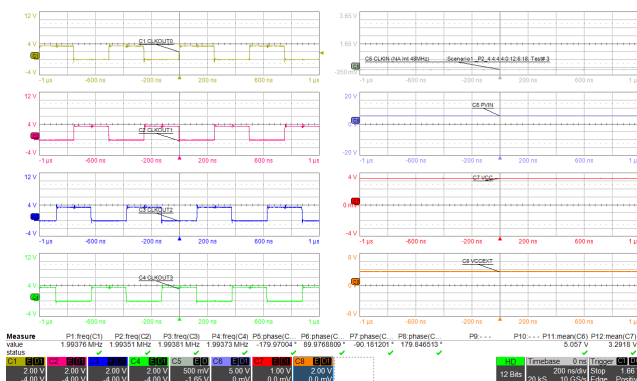
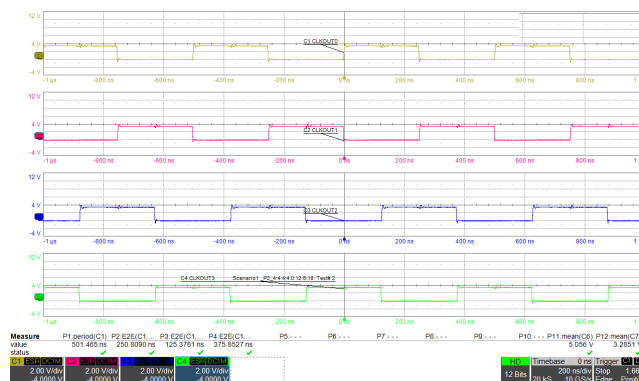

Figure 16. Example Scenario 1: Frequency and Phase (Four 2MHz frequency and four 90 phase measurements)
Figure 17. Example Scenario 1: Period and Delay (Four 500ns Period with Four delays (125ns))
- Scenario 1 (Figure 16 and Figure 17) – All four outputs are at the same frequency